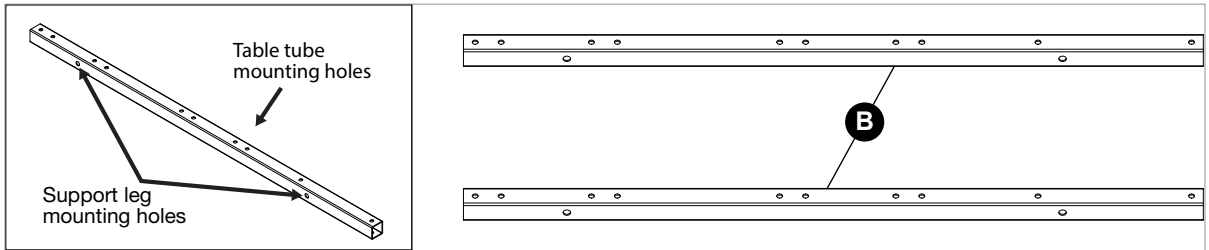

Fig. 46
Place two table support tubes (B) on the floor behind your table saw and align them as shown in Fig. 46. The four sets of paired together holes should be on the left (from the perspective of the user of the table saw), and the two solitary holes should be on the right.